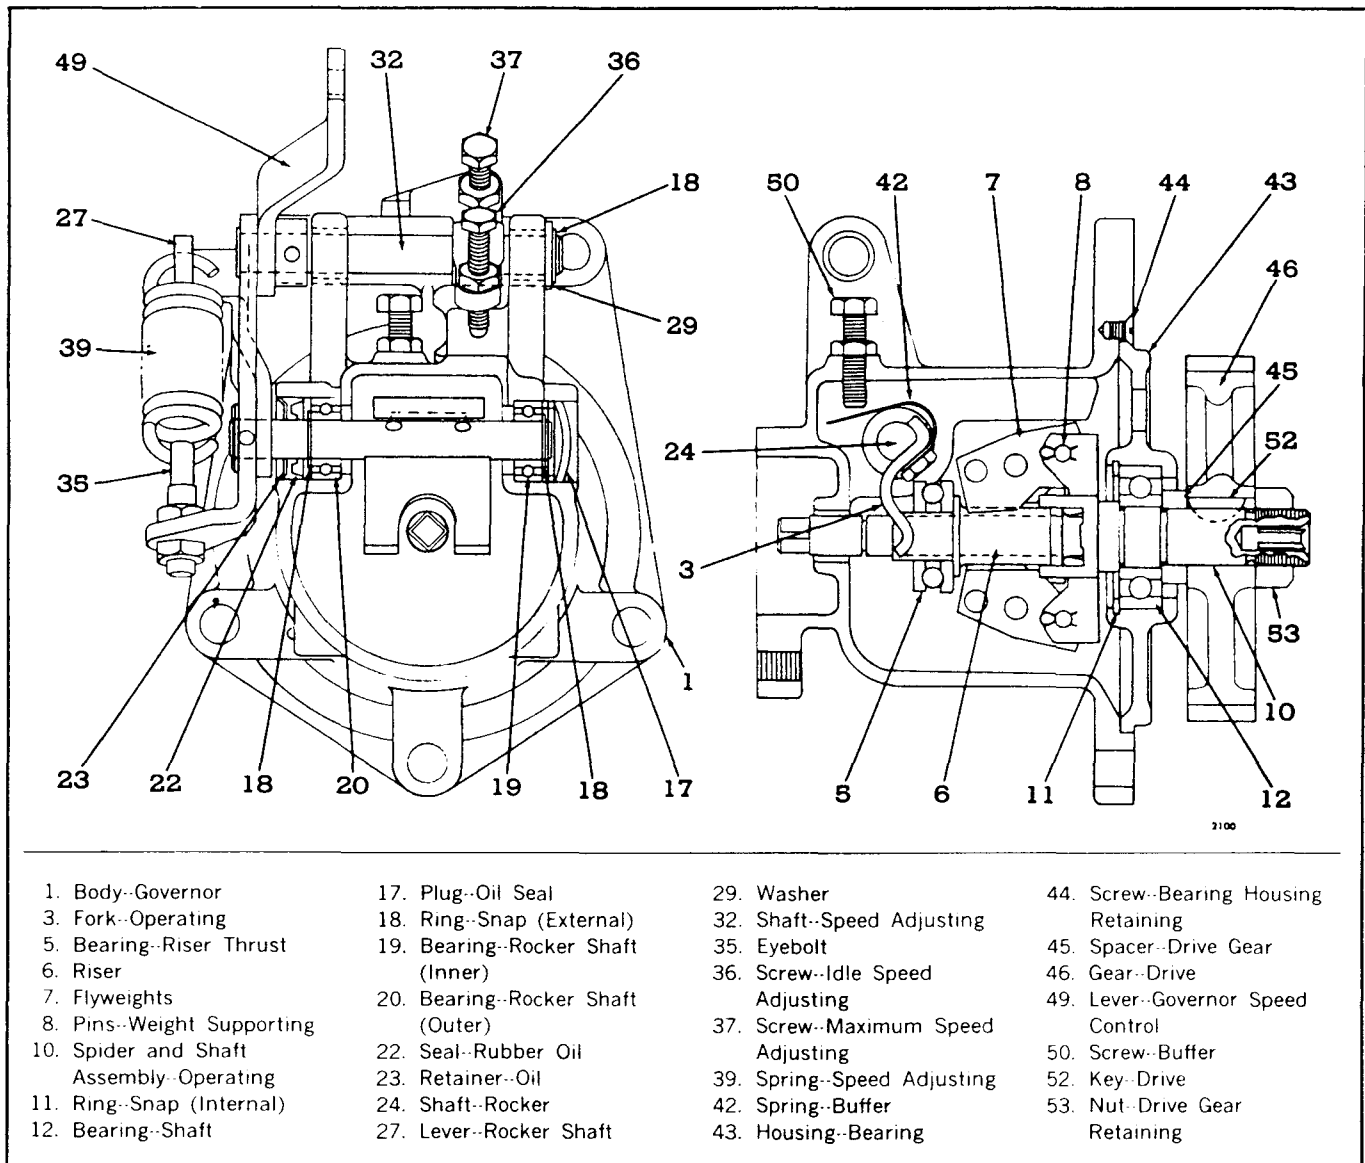

Fig. 2 - Governor Cross-Section
The governor flyweights (7), shown in Fig. 2, are mounted on the spider and shaft assembly (10) and driven by the governor drive gear (46). This gear is pressed on the spider and shaft assembly and is driven by the engine gear train. A shoulder on the flyweights bears against the riser (6) that transmits the motion of the flyweights through the riser thrust bearing (5) to the operating fork (3). The operating fork is attached to the rocker shaft (24) that rides in ball bearings (19 and 20), and transmits the motion of the flyweights to the rocker shaft lever (27). The rocker shaft lever is pinned to the rocker shaft. The rocker shaft lever is connected to the speed adjusting spring (39) that is, in turn, connected through an eyebolt (35) to the governor speed control lever (49). The governor speed control lever is mounted on the speed adjusting shaft (32) and is controlled by the engine operator when establishing the desired speed of the unit. The idle (36) and maximum (37) speed adjusting screws limit the travel of the governor speed adjusting shaft and thus the minimum and maximum engine speed
Before removing any parts from the governor, wash the entire unit in clean fuel oil and dry it with compressed air. Then inspect for worn or damaged parts that can be repaired or replaced without complete disassembly. Refer to Figs. 2 and 4 and disassemble the governor as follows: